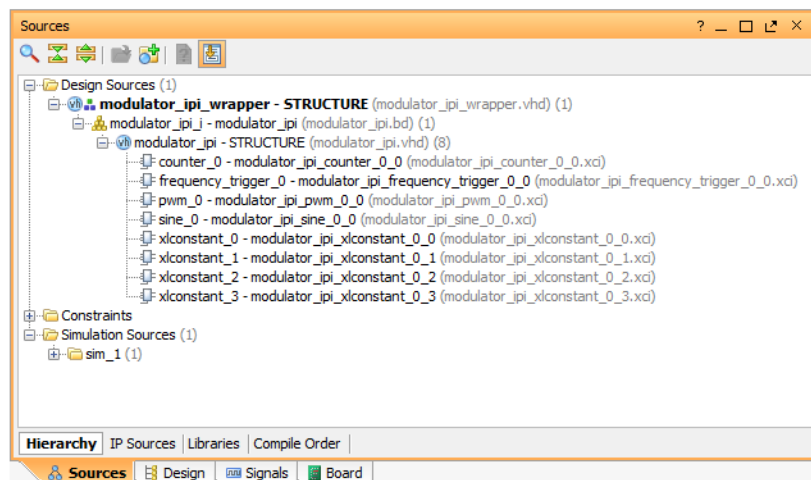

Figure 37. Sources window with generated modulator_ipi HDL wrapper
- 3-3-7.** After the HDL wrapper is generated, you should see it in the **Sources** window, see Figure 37.